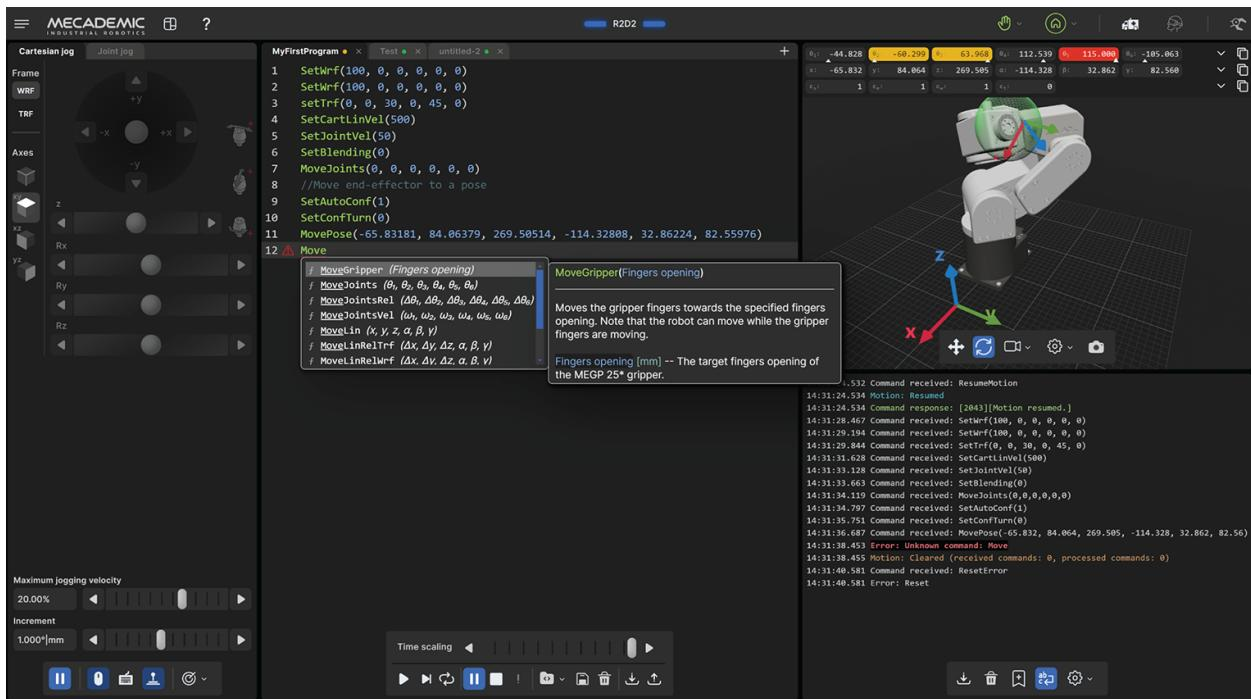

Figure 23: Overview of the MecaPortal
2. Meca500’s web interface, called MecaPortal, should load instantaneously (Figure 23). The MecaPortal will be described in detail in a separate manual (MC-OM-MECA500).